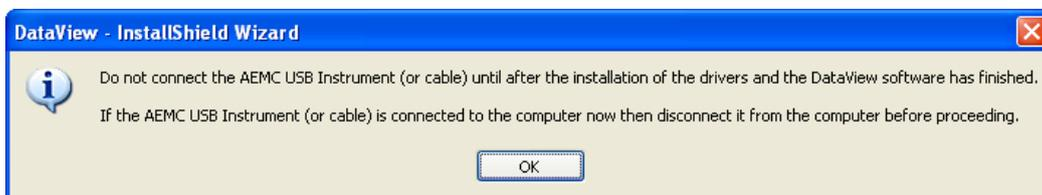

Figure 1-3
10. If the chosen instrument requires the use of a USB port (this is the case here), an information window like that shown in figure 1-3 opens.